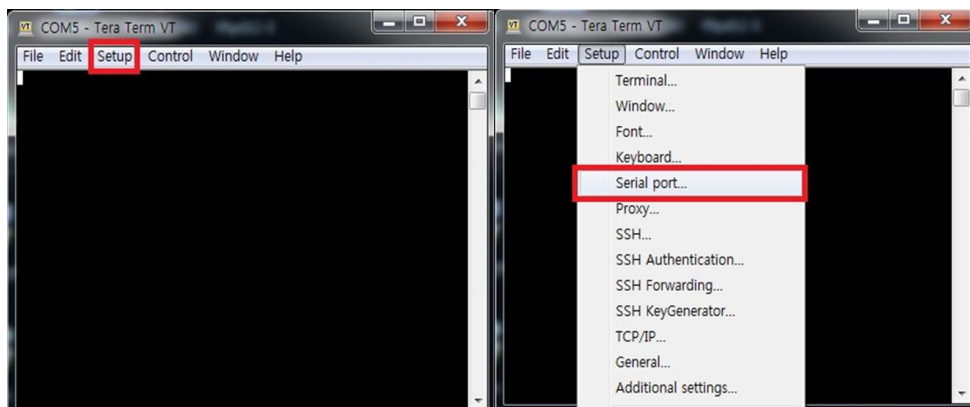

Figure 7. Tera Term - Setup menu
8. Go to 'Setup' on the top menu, and click on the 'Serial port...' (see Figure 7).